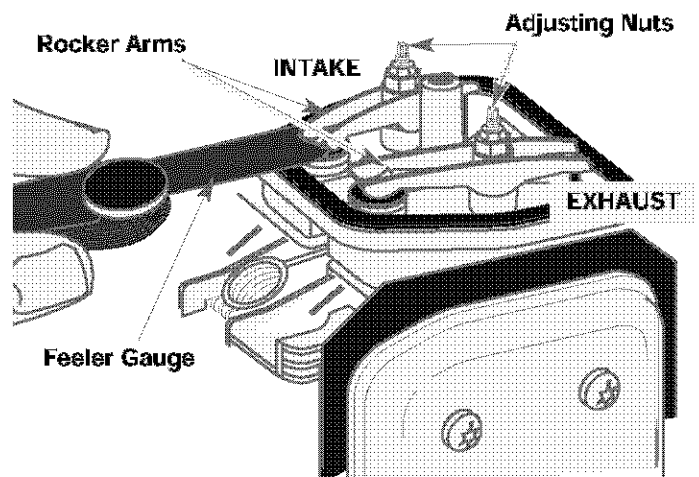
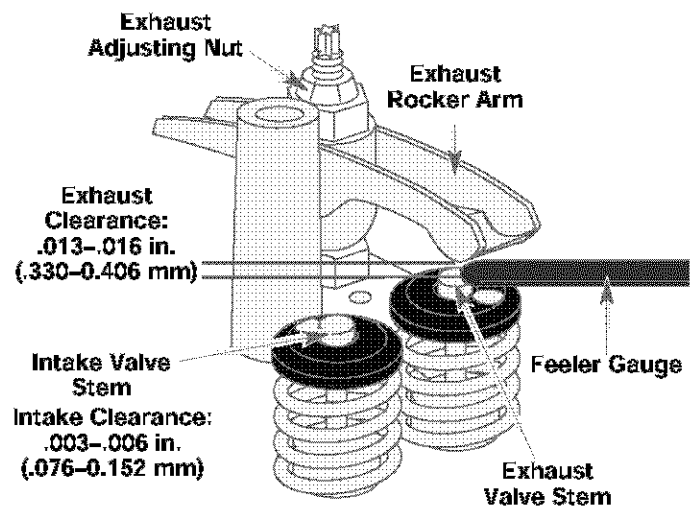

Fig. 55
Fig. 56
- Slide the feeler gauge between the rocker arm and the valve return spring. Measure the clearance between the valve stem and rocker arm (Fig. 55). Measure both the intake and exhaust valves.
Use a standard automotive .005 in. (0.127 mm) feeler gauge. The feeler gauge should slide between the rocker arm and valve stem with a slight amount of resistance, without binding. Figure 55 shows how to measure the intake clearance, while Figure 56 shows the exhaust clearance.
- Turn the adjusting nut using a 5/16 inch (8 mm) wrench or nut driver (Fig. 56).